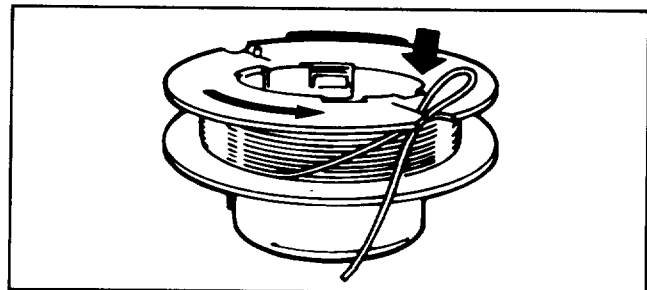

Figure 20
- C. Keep line tight on spool by making a hook in the line and secure in groove (Fig. 20).